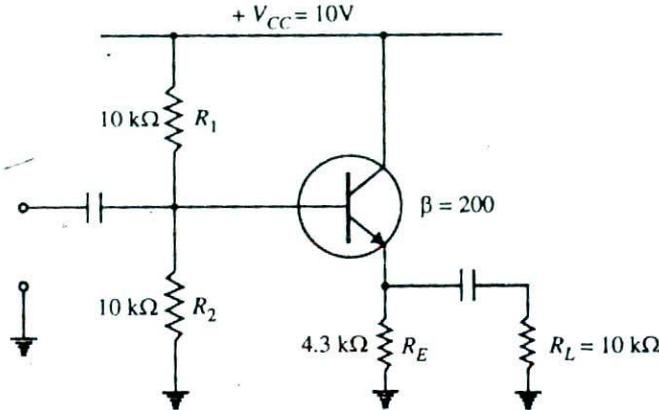

Fig. 15.21
**Example 15.19.** For the emitter follower circuit shown in Fig. 15.21, find the input impedance.